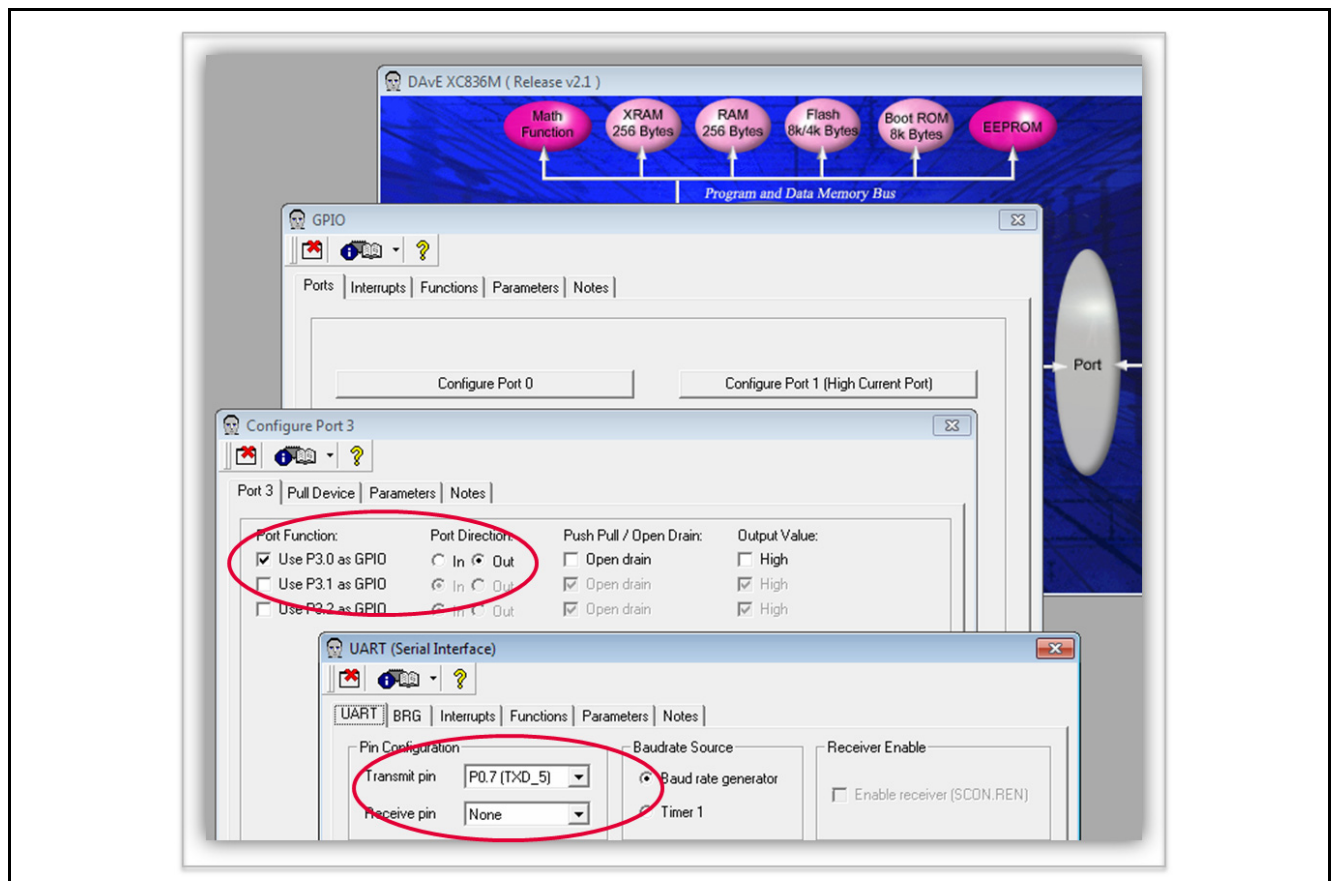

Figure 9 Configuring XC836 pins for Controlling RS485 Interface Board
There are two pins required to control RS-485 communication, namely DATA_ENABLE (DE) and DATA_INPUT (DI), as shown in Figure 9. This implementation uses P3_0 and P0_7 for DE pin and DI pin, respectively.